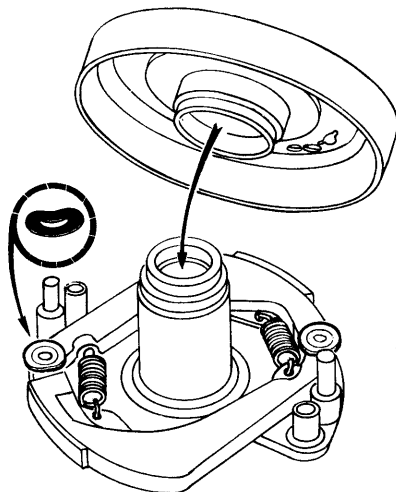

Fig. 5
- Fit the two spring washers on the pivots (to prevent flyweight side play, fig. 5).
- Fit the variator bell onto the hub/flyweights assembly (fig. 5).